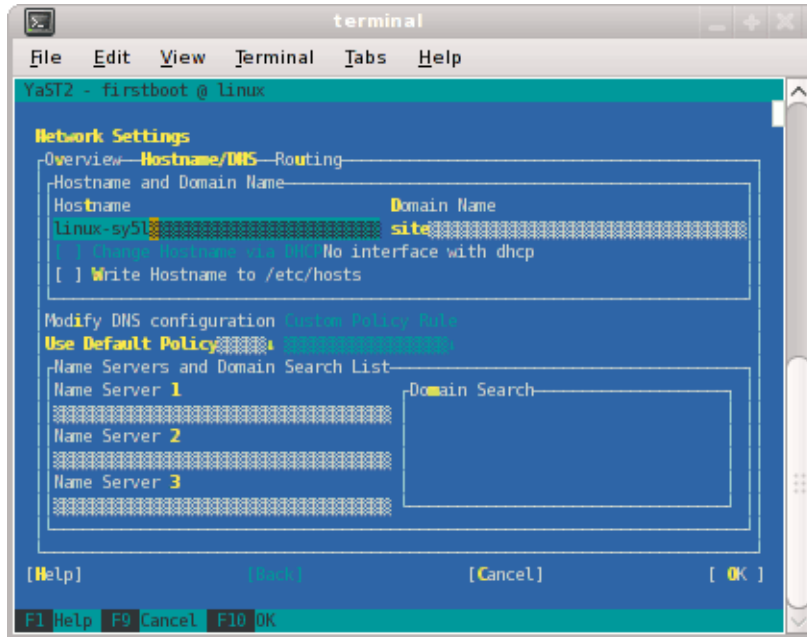

Figure 2-7 Network Settings Screen
10. At this point, you are back at the **Network Settings** screen as shown in Figure 2-7 on page 42. At this time, select **Hostname/DNS**. In this screen, you should enter your house/public network hostname and fully qualified domain names. In addition, any name servers for your house/public network should be supplied. Please select (ensure an x is in the box) for **Write hostname to /etc/hosts**. Do **not** select **OK** yet.